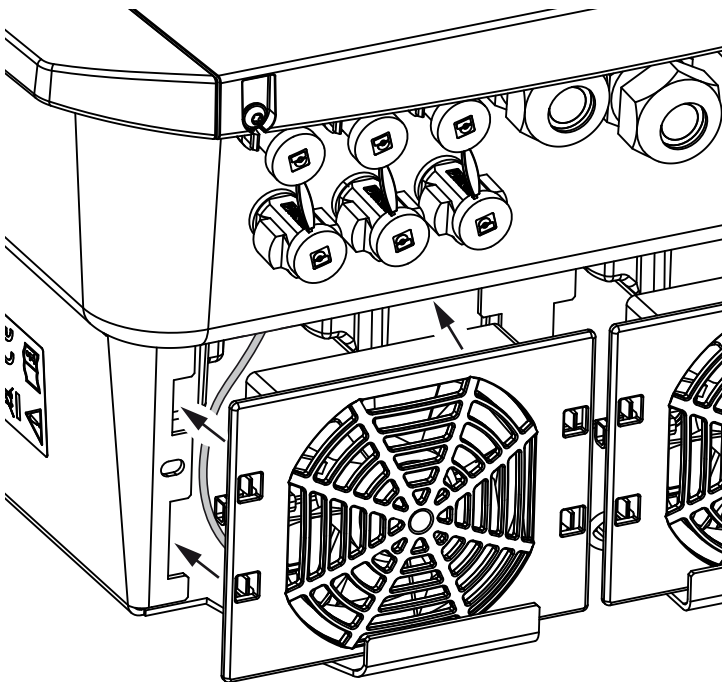

Fig. 77: Fan installation
- the fan must be correctly installed in the fan frame (air flow direction). **↗ Fig. 77**